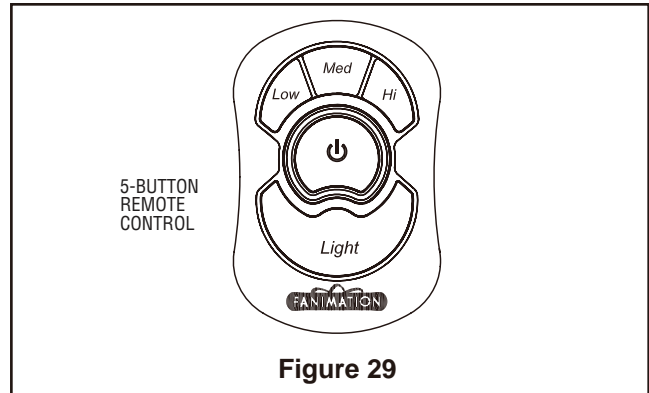

Figure 29
- 3. The 5-button hand-held remote transmitter includes five buttons for high, medium and low fan speeds as well as fan off and light on/off. Infinite light levels are available by holding the light on/off button (Figure 29).